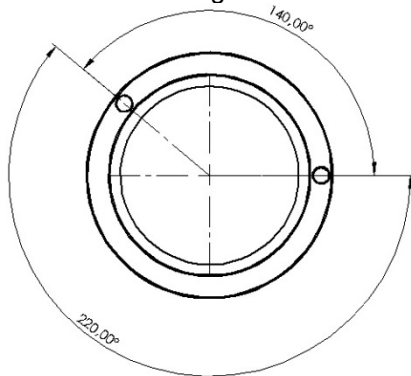

Fig. 11
**NOTE:** the lateral monitor support has limits for rotation. This limitation has two options of angular movement, one wider than the other (Fig.11)